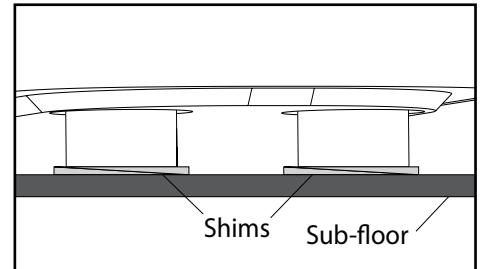

FIGURE 3. Shim feet if needed using construction adhesive to attach shims to bathtub feet and subfloor.
- b. Use shims to level bathtub if needed (Fig 3).
- c. If needed, level bathtub with shims into construction adhesive under feet (Fig 3).